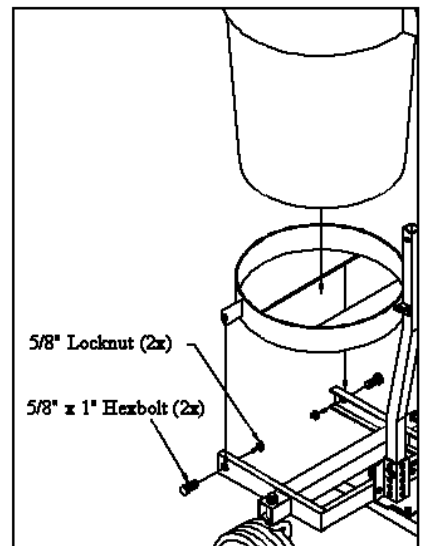

Fig. 3
3. Attach container holder (9) to frame with 5/8" x 1" hexbolt and 5/8" locknut. Place container (20) in holder and tighten bolts until holder supports the container (20) in the tilted position. **Fig. 3**